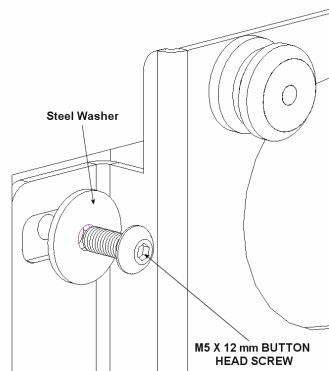
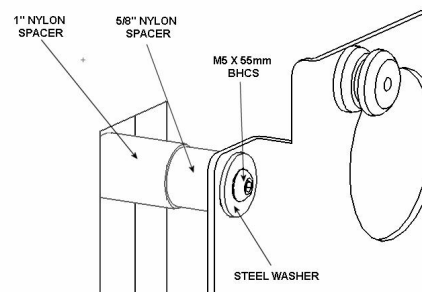

Figure 4
Figure 5
2. Place plasma bracket on display, with the bent flanges of the bracket in the slots on the display, and attach using the M5 x 12mm button head cap screws and washers, if the screen has a media box use the M5 x 55mm screws and spacers to space the bracket away from the screen, ensuring not to over-tighten (see Figure 4, 5, & 6).
5. Place Nylon spacers over mounting holes on back of screen. Attach mounting brackets to the display using the M8 screws (see Figure 4 & Figure 5).